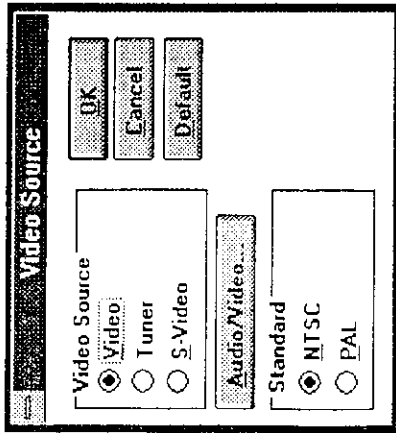

Figure 3-18.
4. CLICK on Video Source to set the source of the video signal (see Figure 3-18).